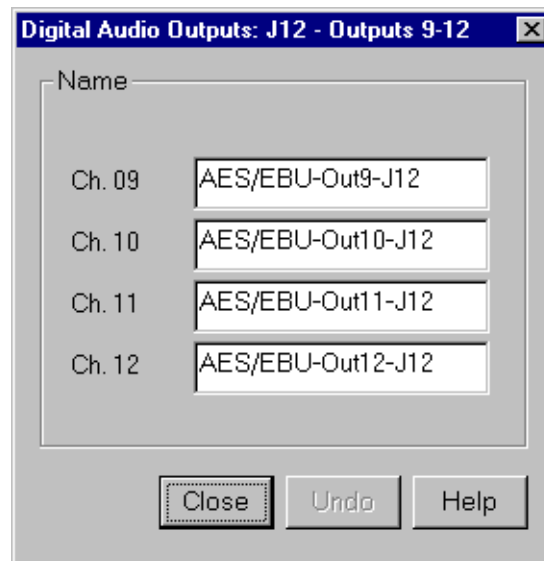

Figure 40. Digital Audio Output dialog box
1. Expand Audio Output, and then click one of the Digital Channels to bring up the Digital Audio Output dialog box (Figure 40). The channel numbers on the left refer to the physical output connectors on the audio output box. **Ch. 01** and **Ch. 02** refer to the channel pair on the first connector, and **Ch. 03** and **Ch. 04** refer to the pair on the second connector, and so forth.